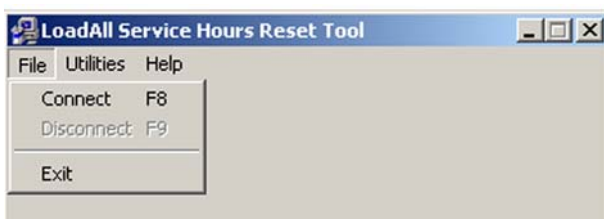

Fig 13.
- 8 Enable the connection between the PC/Laptop by pressing the "Connect" button → Fig 12. \(M2-12\) or select "Connect" from the "File" Menu. → Fig 13. \(M2-12\)